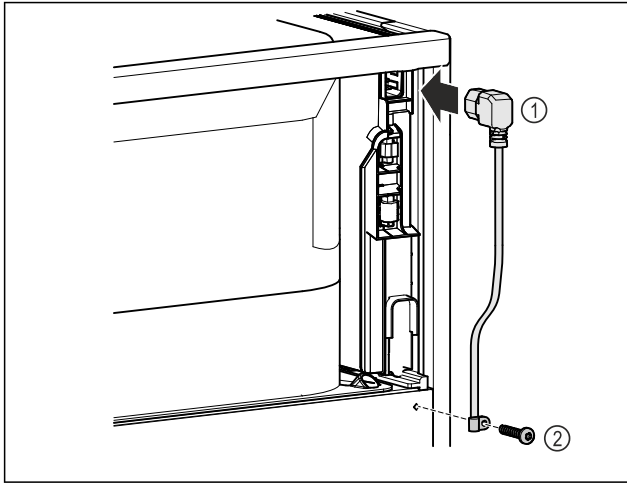

Fig. 68
- ▶ IEC socket of the power cable Fig. 68 (1) on the rear side of the appliance.
- ▶ Install mains tension relief Fig. 68 (2)